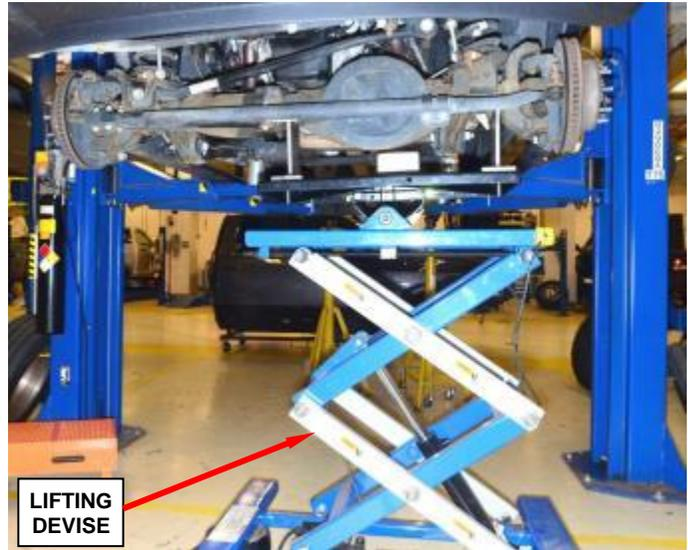

Figure 72 – Secure Axle to Lifting Device
14. Secure the front axle to a lifting device (Figure 72).